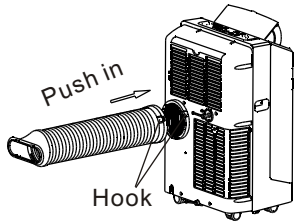
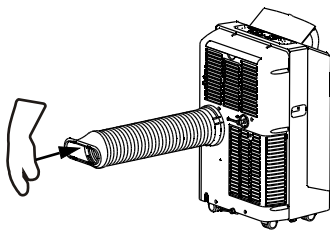

Fig. 19
Fig. 20
2. Place the Exhaust hose over against the air outlet opening hook(See Fig.19) and flat the other end(See Fig.20) for quick installation.